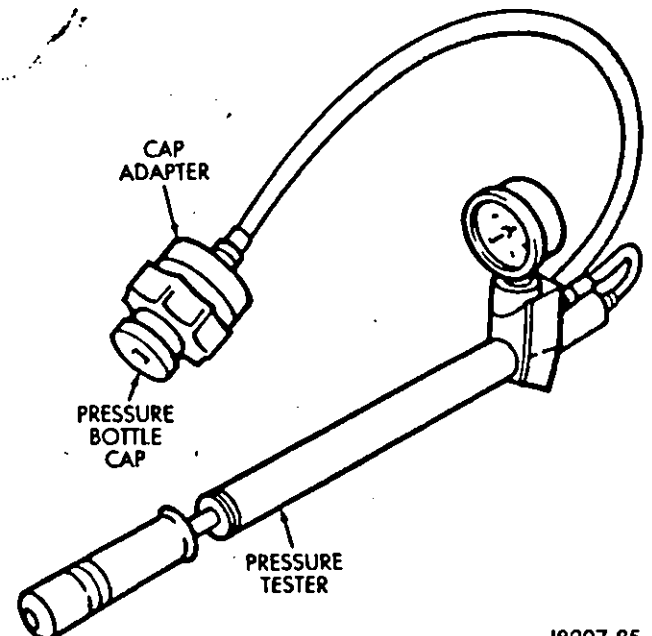

Fig. 4—Pressure Testing Pressure Bottle Cap
(1) Install cap adapter on pressure tester (Fig. 4).
(2) Connect pressure bottle cap to adapter and pressurize cap to 124 kPa (18 psi).
(3) Cap pressure should stabilize within ± 6.9 kPa (1 psi) of this setting.
(4) Replace cap if pressure does not stabilize within specified limits.